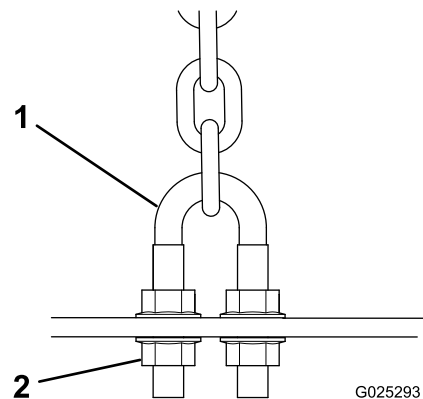
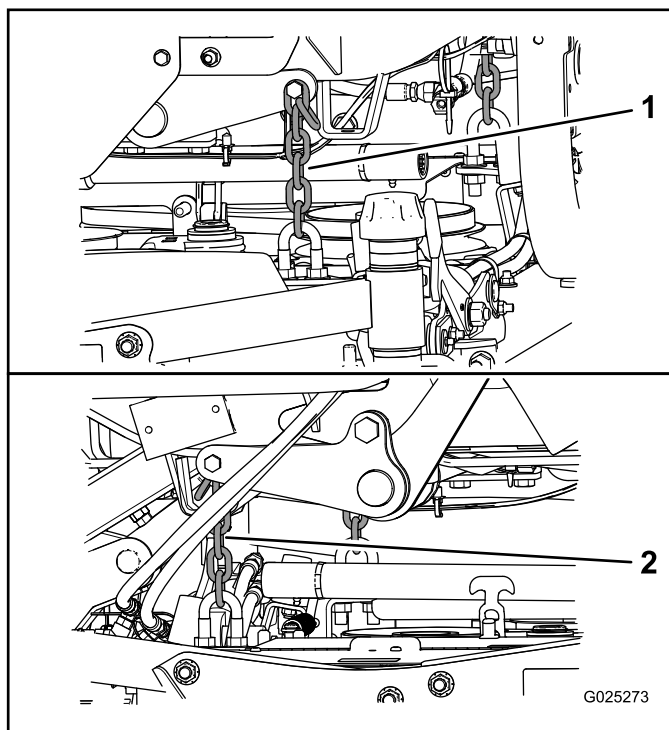

Figure 13
Figure 14
7. Adjust the U-bolt jam nuts (Figure 13) securing the rear deck chains (Figure 14) to the mower deck to raise the rear of the mower so that the blade pitch is set to 8 to 11 mm (5/16 to 7/16 inch).
8. Adjust the jam nuts securing the deck chains to the mower deck until the mower deck is level (Figure 14).